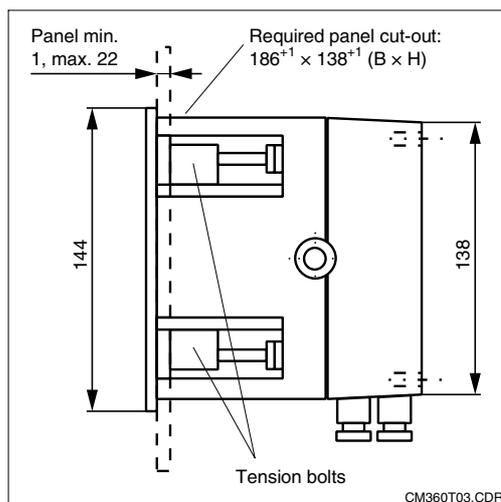

Fig. 3.5 OCM 360, side view with panel cut-out
- Make cut-out in panel as depicted in Fig. 3.5.